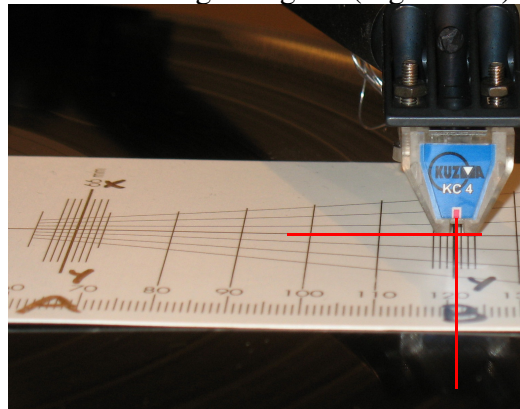

Fig. 18 Alongside line “X-Y” alignment at B
11. Recheck alignment of the cantilever at zero point B. If cantilever is not aligned here, rotate protractor to find where on line “x- y” the cantilever is aligned again. (Fig.18&15)